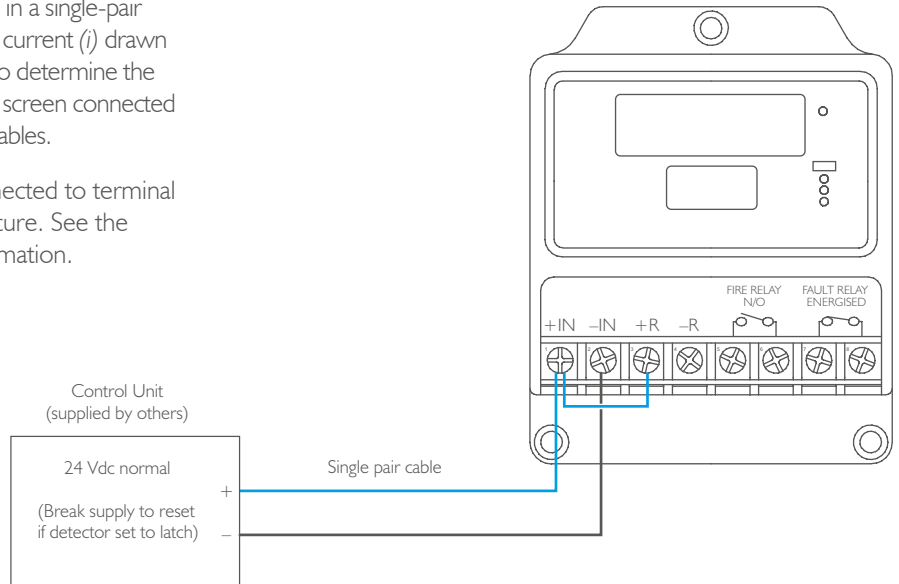

Figure 15. Basic two-wire connection diagram
- 1) Current signalling. The detector can be connected as a two-wire loop-powered device, increasing its supply current to signal that a flame has been detected – see Figure 15.